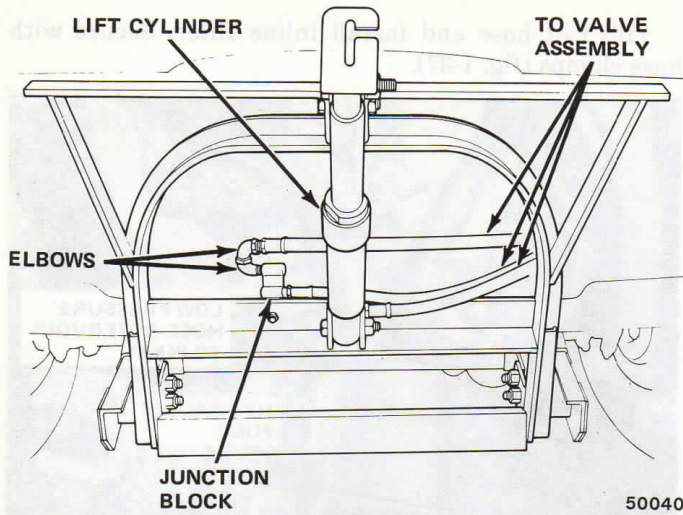

Fig. 1-39 Lift Cylinder and Junction Block Installation
(12) Install low pressure return hose from valve assembly to inlet on reservoir. Secure with two hose clamps.
(13) Install lift cylinder, lift frame, and lift arm, using two bolts and locknuts (fig. 1-39).